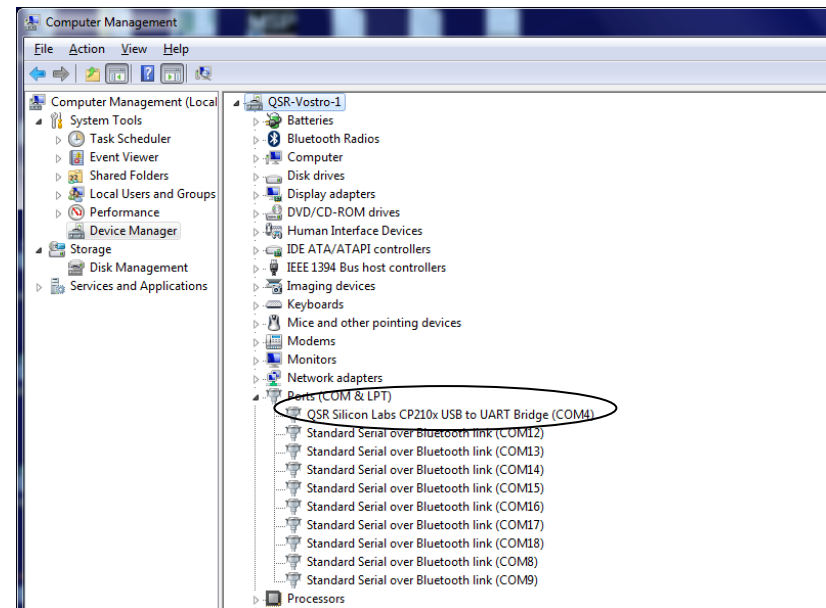

Figure 7 – Device Manager, showing the Silicon Laboratories driver.
- There should be an entry “Silicon Labs CP210x USB to UART Bridge (COM#)” where # has been replaced by a number (Figure 7).